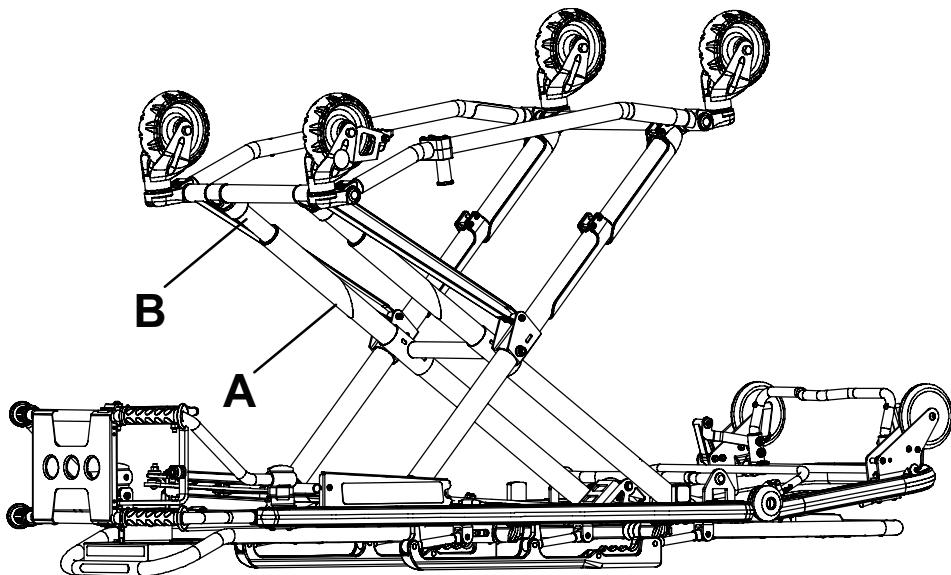

Figure 25 – Base lubrication locations
3. Using the plastic applicator tube, spray **Tri-Flow™ with Teflon®** lubricant (6082-199-012) in the gap between the upper (A) and lower lift tubes (B) on both foot end legs (Figure 25).